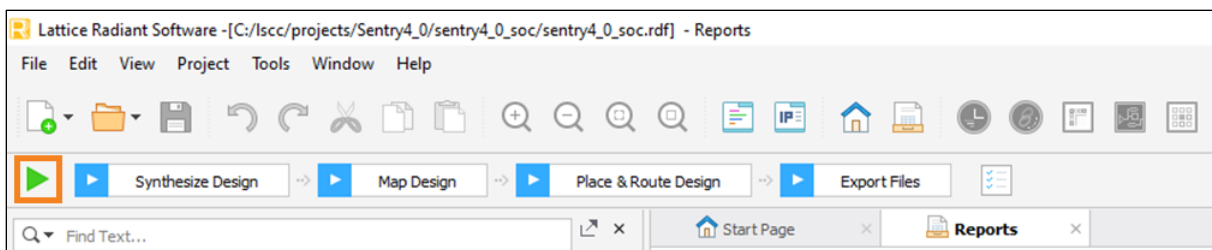

Figure 4.15. Lattice Radiant Software Synthesis/Map/PAR Process
- In Lattice Radiant software, click the green arrow to run through the Synthesis/Map/PAR/export process to generate a signed bitstream (Figure 4.15).